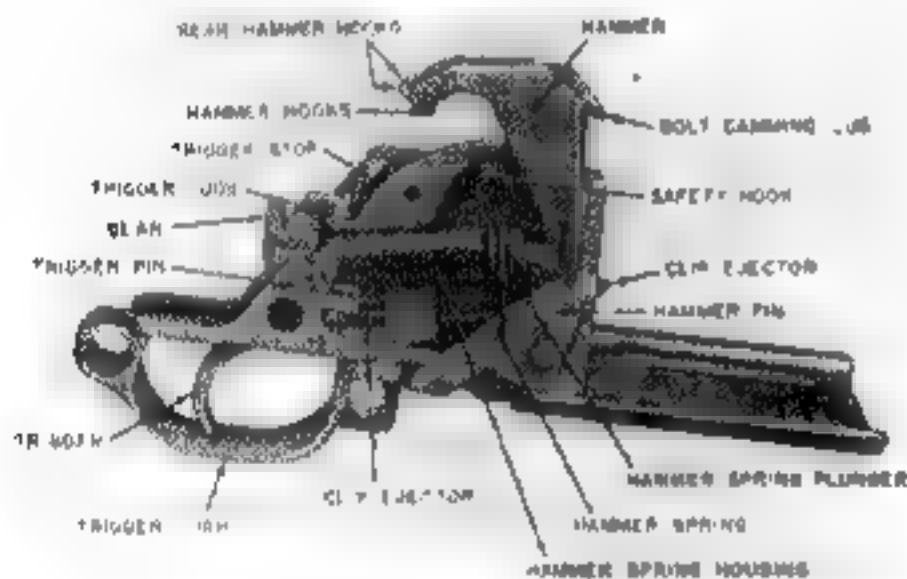

Fig. 72. Trigger housing group.
(1) The trigger group is disassembled as follows (Fig. 72):